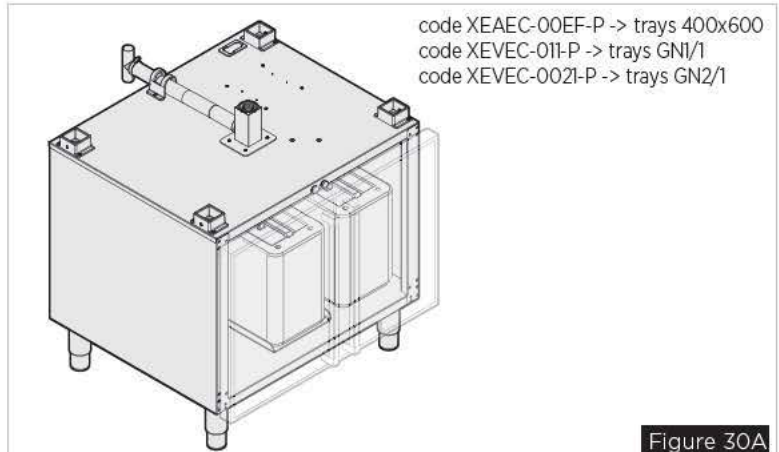

Figure 30A
- **Pollo-Cabinet (Figure 30A)** (code XEAEC-00EF-P for 400x600 trays, code XEVEC-011-P for GN1/1 trays and code XEVEC-0021-P for GN2/1 trays). This cabinet is fully motorised and by way of a valve automatically conveys the grease from the oven to the appropriate airtight collection tank (2 tanks are supplied as standard). A load cell placed under it can detect the state of the tank and alerts the user, via a screen message, when it is time to empty it. The cabinet also has a space designed for a spare tank of the **UNOX.Det&Rinse Plus** detergent and the **UNOX.Pure** filter.